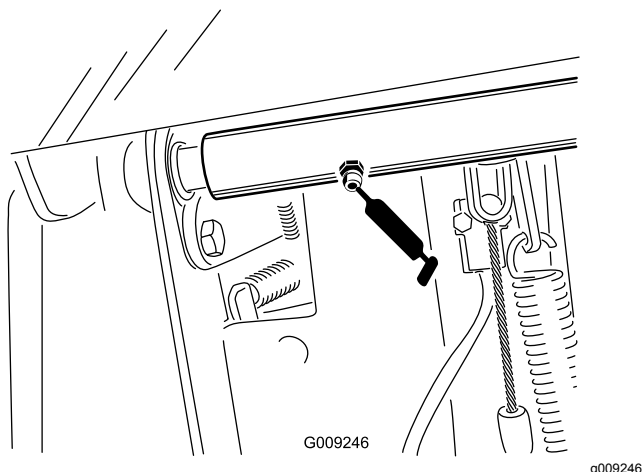

Figure 59
- 2 brake pedal pivot-shaft bearings (Figure 59)